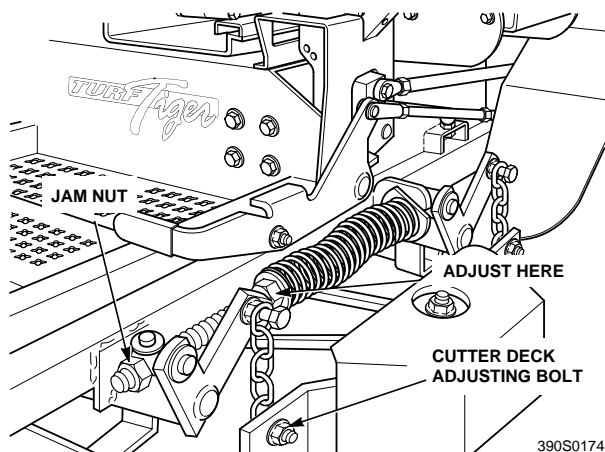

Figure 6-5. Cutter Deck Adjustment
1. On the front LH side of the cutter deck locate the cutter deck adjusting bolt. (See Figure 6.5)
1. Loosen the jam nuts on both adjusting rods. (See Figure 6-5)
2. Using a wrench on the spring compression nut (See Figure 6-5) turn the adjusting rods until the 1/4" forward pitch is obtained on both the RH and the LH side of the cutter deck. Tighten both jam nuts.